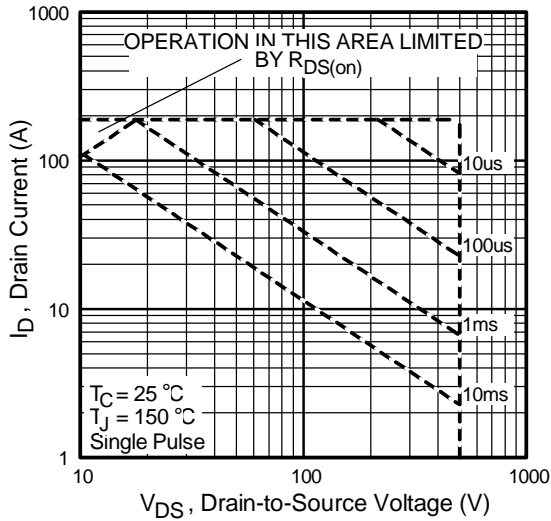

Fig 12. Maximum Safe Operating Area
- ② Starting $T_J = 25^\circ\text{C}$, $L = 0.86\text{mH}$, $R_G = 25\Omega$, $I_{AS} = 46A$. (See Figure 12).
- ③ $I_{SD} \leq 46A$, $di/dt \leq 367A/\mu s$, $V_{DD} \leq V_{(BR)DSS}$, $T_J \leq 150^\circ\text{C}$.
- ④ Pulse width $\leq 400\mu s$; duty cycle $\leq 2\%$.
- ⑤ $C_{oss \text{ eff.}}$ is a fixed capacitance that gives the same charging time as C_{oss} while V_{DS} is rising from 0 to 80% V_{DSS} .